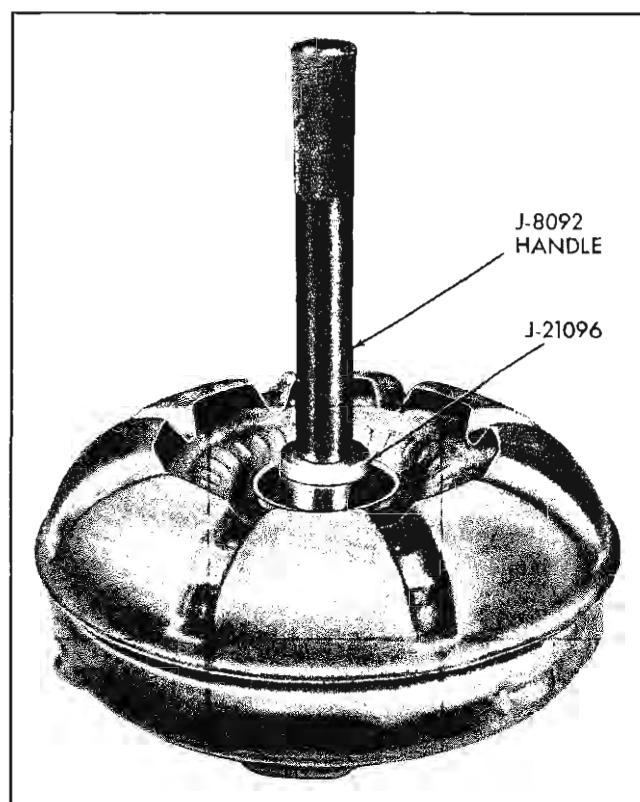

Fig. 7A-56 Installing Converter Bushing
- c. If clearance is not within limits, remove reverse clutch pack and install a thicker or thinner selective plate (Fig. 7A-58) next to piston as required. Selective plates are available in three thicknesses: .070", .102" and .134".